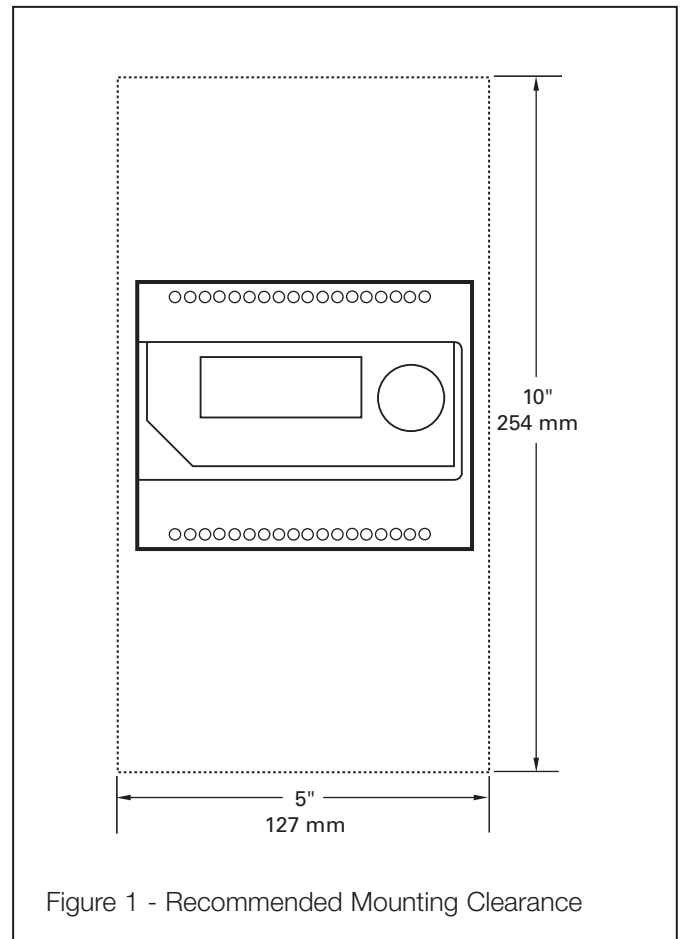

Figure 1 - Recommended Mounting Clearance
1. Mount the controller in a rain-tight, protected location using the supplied DIN rail. To leave enough working space, the suggested mounting area is 10" (254 mm) high and 5" (127 mm) wide. The minimum depth is 3" (76 mm). See Figures 1 and 2.